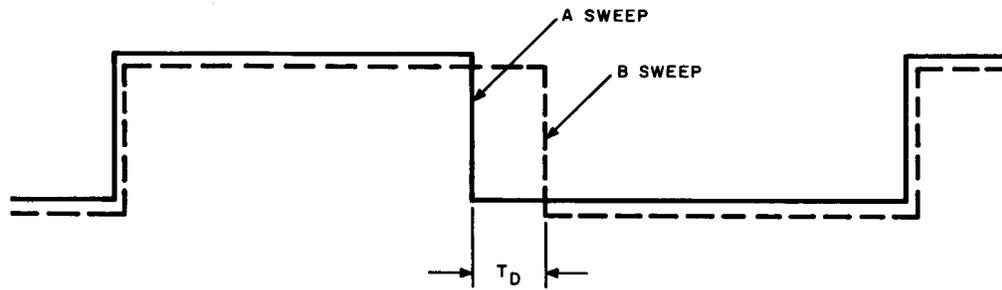

Fig. 61A — MIL. STD 188B Interface Test
(4) Adjust the TIME BASE STABILITY and TRIGGERING LEVEL controls to obtain a display of the waveform on test point 4. Overlay the CHAN A and CHAN B waveforms, as shown in Fig. 61A, by adjusting the AMPLIFIER VERTICAL POSITION controls. The TRIGGERING LEVEL control should be set in a region where a slight counterclockwise or clockwise movement does not cause T_D to vary.
(5) Adjust potentiometer R10 until the negative transition of the A sweep precedes the negative transition of the B sweep by approximately $20 \mu\text{sec}$.
(6) Reduce the amplitude of input sine wave to $0.35 (\pm 0.01) \text{ volt rms}$.
(7) Rotate potentiometer R10 clockwise until the negative transition of the A sweep precedes the negative transition of the B sweep
by approximately 4 μsec (ie, T_D approximately by 4 μsec , see Fig. 61A).